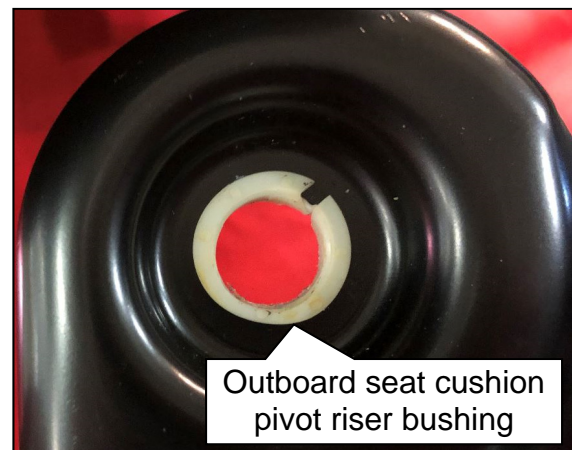

Figure 10
11. Place the rear outboard seat cushion pivot riser on a suitable work surface, with the outer side facing upward (Figure 10).